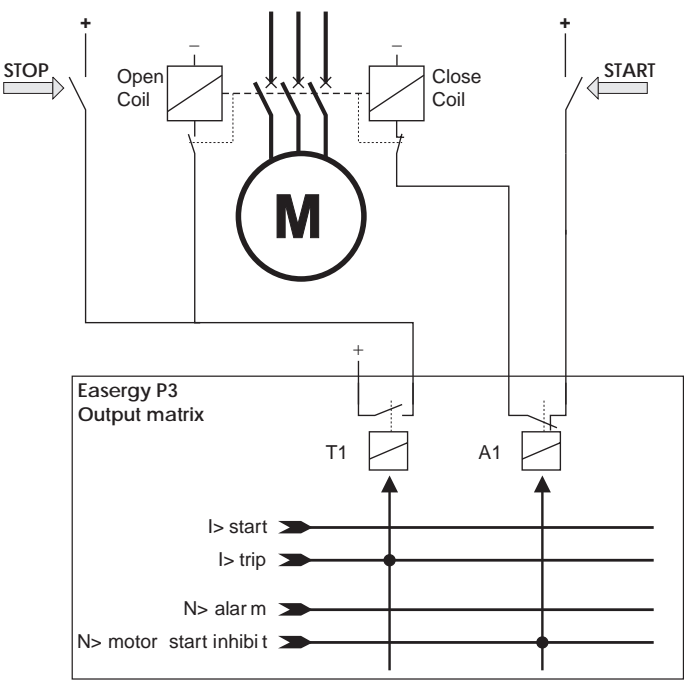

Figure 5.54: Application for preventing too frequent starting using the N> stage
Figure 5.54 shows an application for preventing too frequent starting using the N> stage. Closed coil wire has been connected through the normal close (NC) contact of the signal relay A1, and A1 is controlled with the N> start inhibit signal. Whenever the N> motor start inhibit signal becomes active, it prevents circuit breaker closing.